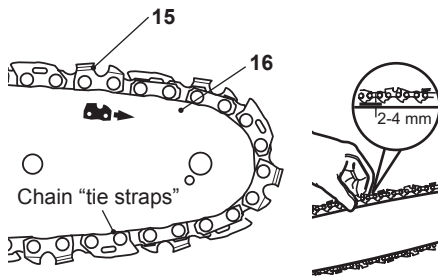
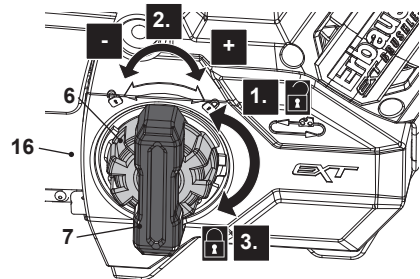

Fig. 7
Fig. 8
1. Place the product on a suitable flat surface with the garden saw cover (14) facing forwards.
2. Check the chain tension using one hand to lift the saw chain (15) against the weight of the product. The correct chain tension is achieved when the saw chain (15) can be lifted by approximately 2 - 4 mm from the guide bar (16) in the centre (Fig. 7).
3. Adjust the tension if you find that the saw chain (15) is too loose or tight.
4. Hold the locking wheel (7) and slightly loosen the locking wheel (7) anticlockwise, then rotate the chain tension wheel (6) anticlockwise or clockwise to adjust the guide bar (16) towards the right or left until the chain 'tie straps' are just touching the bottom edge of the guide bar (16), hold it in the position (Fig. 8, steps 1, 2).
5. Pull the saw chain (15) along the top of the guide bar (16) by gloved hand from one end to the other, several times. The saw chain (15) should feel tight but still move freely.
6. After the adjustment, re-tighten the locking wheel (7) (Fig. 8, step 3).